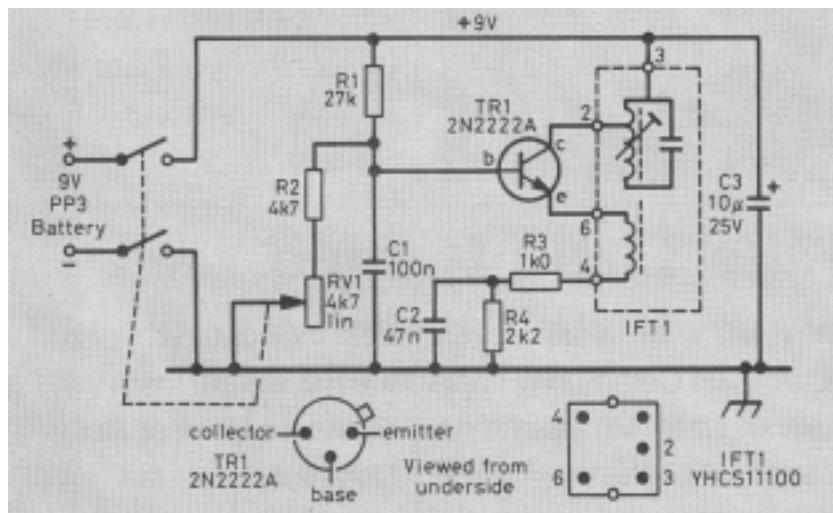
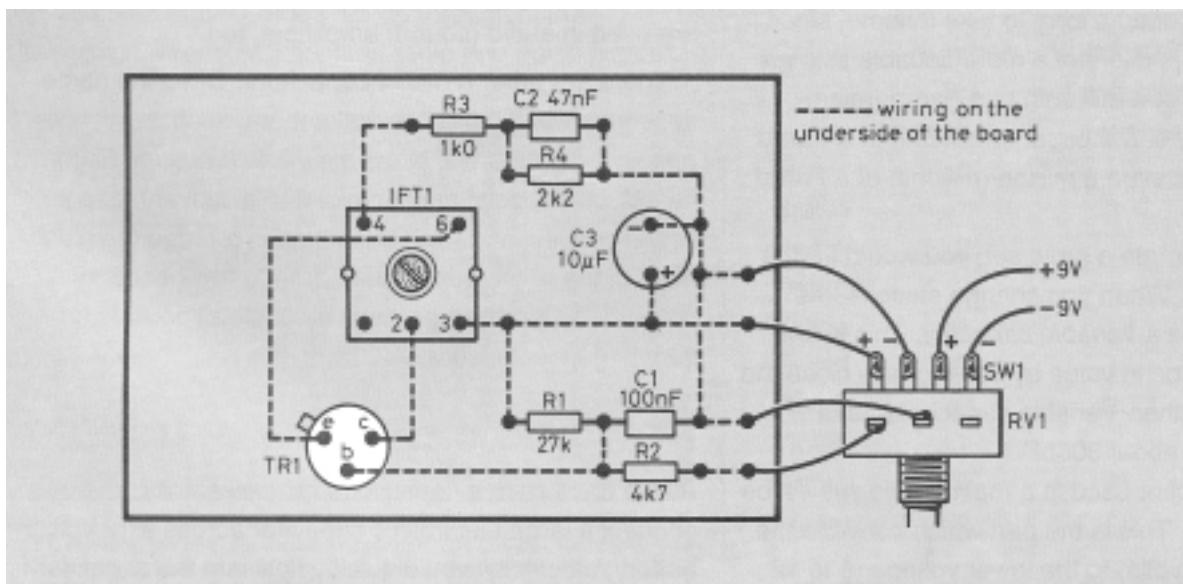

Figure 1 Circuit diagram of the BFO
Figure 2 Matrix board layout shown from the component side. Adjust IFT1 carefully for the best results
In the more complex amateur radio receiver, a BFO is incorporated as part of the whole system. In our model, it is an external circuit that sits alongside your radio. The circuit diagram is shown in **Figure 1**.
Look at Figure 2 carefully before you start to build the circuit, so that you can position the components correctly. Firstly, inspect the intermediate frequency (IF) transformer, IFT1, and remove its metal screening can very carefully. Again, this is to allow some signal to escape from our circuit and enter our radio. Having done this, solder the components, using the matrix board as a support. Underneath the board, the components are linked by single-conductor, insulated wire. Take particular care with the polarity of the electrolytic capacitor, C3, and the connections to the transistor, TR1 (see Figure 1).